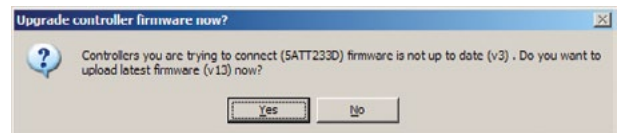

Figure 36. Dialog, asking whether to update firmware.
1. Answer "Yes" when asked about update dialog is shown in Figure 36. "Firmware Upgrade" window will appear. Click "Upgrade Firmware" button: